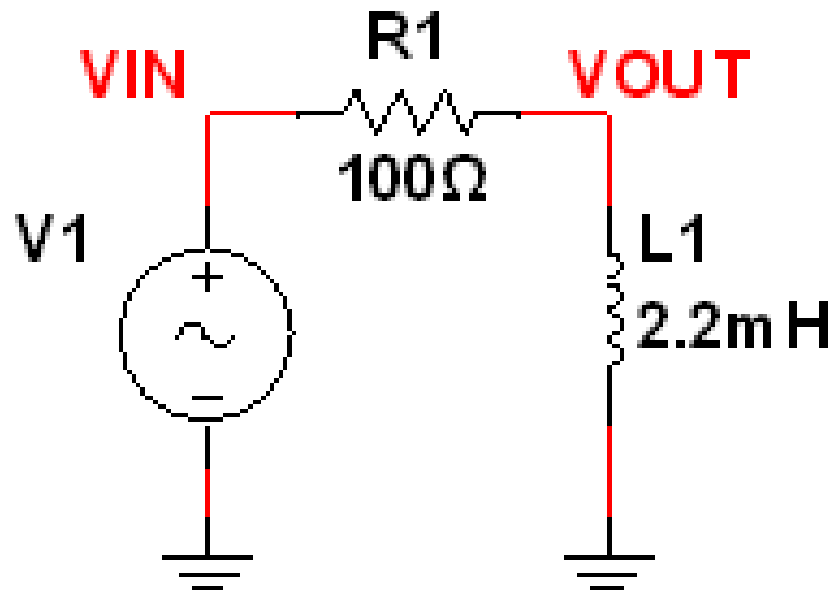

Figure 1
- MEASURE AND RECORD THE RESISTOR VALUE USING THE DMM AND MEASURE AND RECORD THE INDUCTOR VALUES USING THE LCR METER IN TABLE 1. CONNECT THE RESISTOR AND INDUCTOR AS SHOWN IN FIGURE 1. CONNECT THE FUNCTION GENERATOR TO THE INPUT AT V1 AND CONNECT CHANNEL 1 OF THE OSCILLOSCOPE TO THE INPUT AND CHANNEL 2 TO THE OUTPUT. ADJUST THE VOLTAGE OF THE FUNCTION GENERATOR TO $1V_{PP}$ AT THE FREQUENCIES SHOWN IN TABLE 2. MEASURE THE INPUT AND OUTPUT VOLTAGES USING THE OSCILLOSCOPE. RECORD THE RESULTS IN TABLE 2.